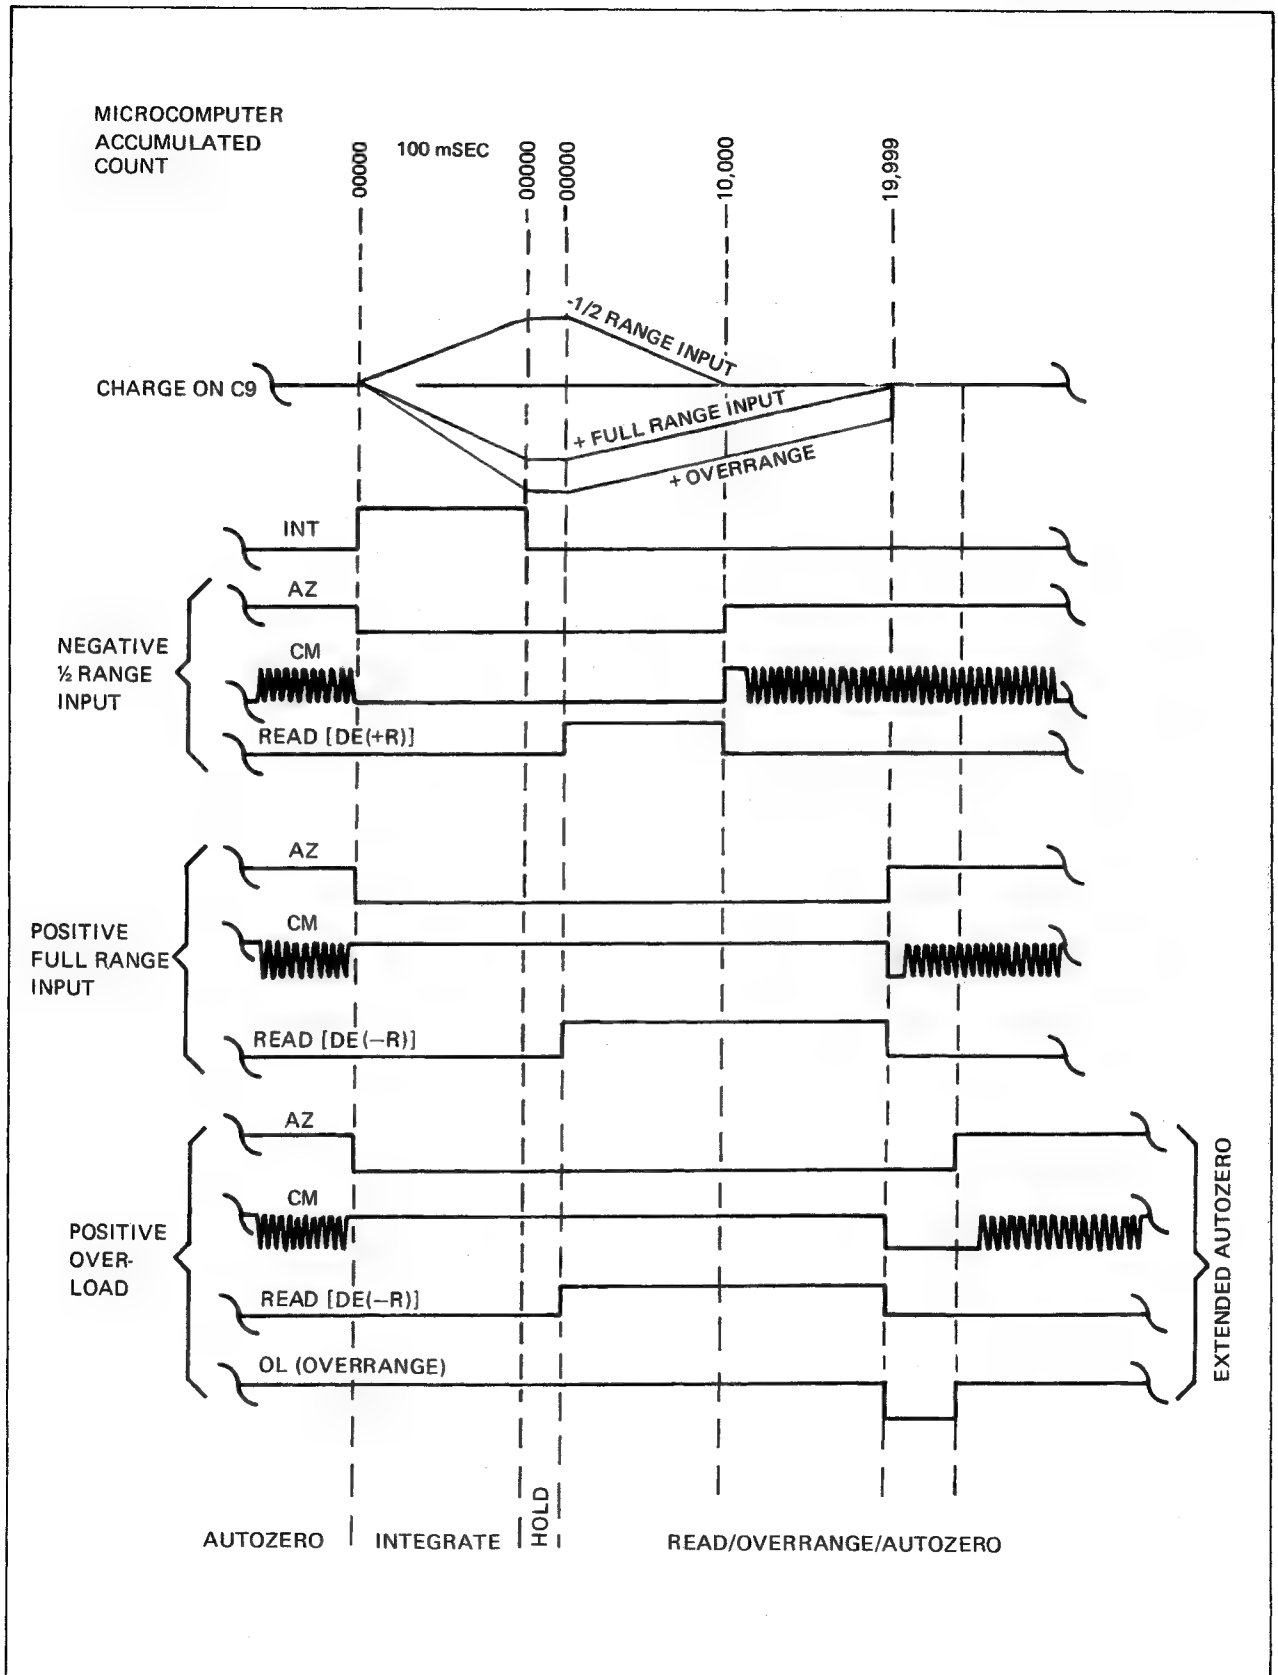

Figure 3-3. A/D Converter Waveforms
3-9. The microcomputer controls the a/d converter via CMOS switches. Figure 3-2 shows the simplified circuits formed during the major periods of a/d conversion cycles. Figure 3-3 is a timing diagram that shows the a/d converter cycle resulting from three different input signals. Assume in reading the following paragraphs that the DC V function and the 2V range are selected, and the DMM is nearing the end of the Autozero period in its conversion cycle.
3-11. Assume that an input of -1.0000V dc is present at the DMM input (first set of waveforms in Figure 3-3). The microcomputer starts the Integrate command (INT) at the same time that it ends the AZ command. The a/d converter circuit is switched to the configuration shown in Figure 3-2, Part B. CMOS switch U18A connects the output of the signal conditioners to the input terminal of the buffer. For the 2V range, the microcomputer selects the X1 gain in the buffer, and the input from the signal conditioner is applied to the buffer and integrator in series. The integrator begins to charge C9. The instant that the charge on C9 shifts from its initial level, the comparator toggles, and its Compare output (CM) goes to a steady level. Since the unknown input to the DMM is
3-15. The bottom set of waveforms in Figure 3-3 shows the timing that results from a positive overrange input to the DMM. If the count in the microcomputer reaches 20,000 before CM toggles, the microcomputer detects this as an overrange condition and issues the overload (\overline{OL}) command for 5 millisecond. The \overline{OL} signal shorts C9, dumping the remaining charge. The following Autozero period is doubled to 200 millisecond. The polarity of the overrange input signal is retained and displayed.